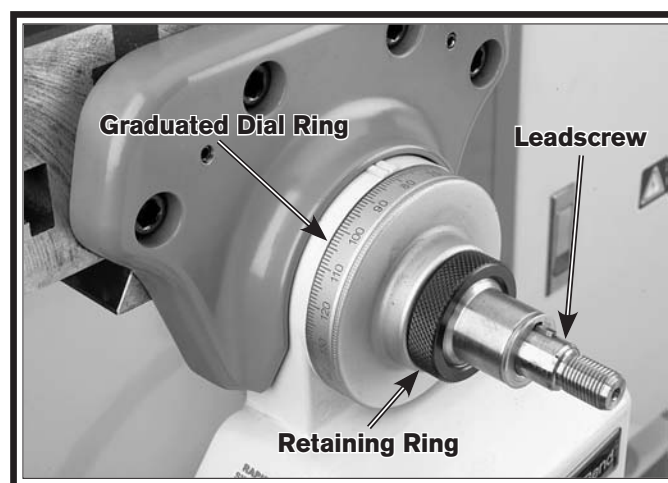

Figure 55. Power feed ball handle removed.
2. Remove the hex nut and ball handle from the power unit end of the X-axis leadscrew (see **Figure 55**).